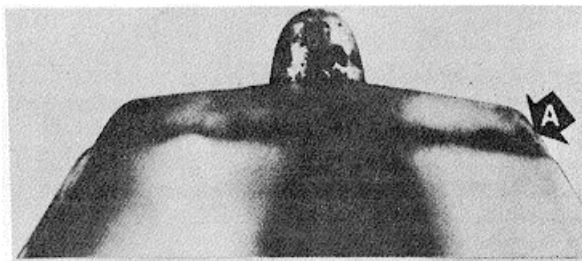

Fig. 6-1-19, F60107. Corroded injector cup tip
- b. Corrosion damage and effect of excessive heat: This condition usually results from high acid or sulphur content in fuel or overload operating conditions. Fig. 6-1-19.